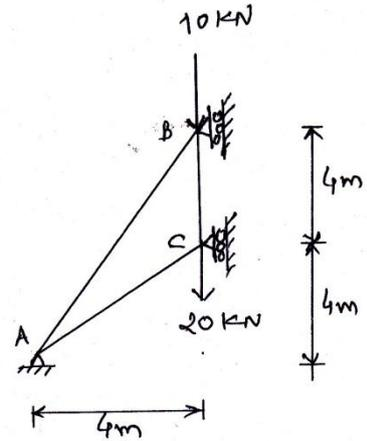

Figure 2
- Q.2 (a) Obtain rearranged joint stiffness matrix for a plane truss shown in Figure 2. **07**
- (b) Calculate free joint displacements and member end forces for the above truss shown in Figure 2. **07**